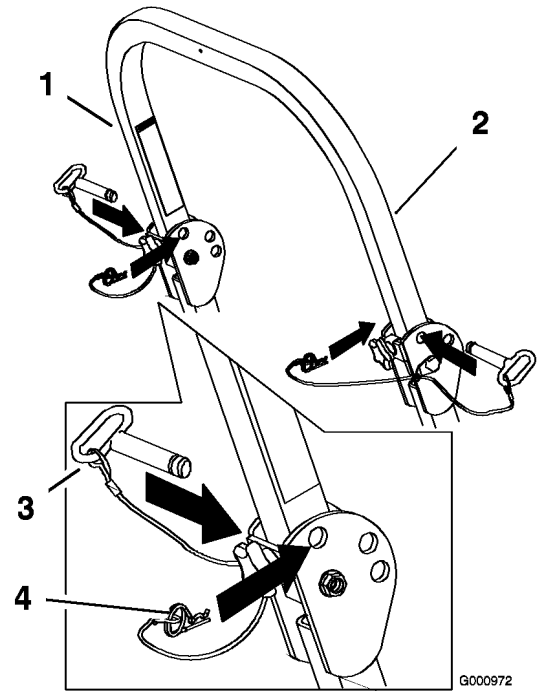

Figure 7
- Remove the hairpin cotter pins and remove the two pins (Figure 7).
- Install the two pins and secure them with the hairpin cotter pins (Figure 7).
- To raise the roll bar, remove the hairpin cotter pins and remove the two pins (Figure 7).
- Raise the roll bar to the upright position and install the two pins and secure them with the hairpin cotter pins (Figure 7).